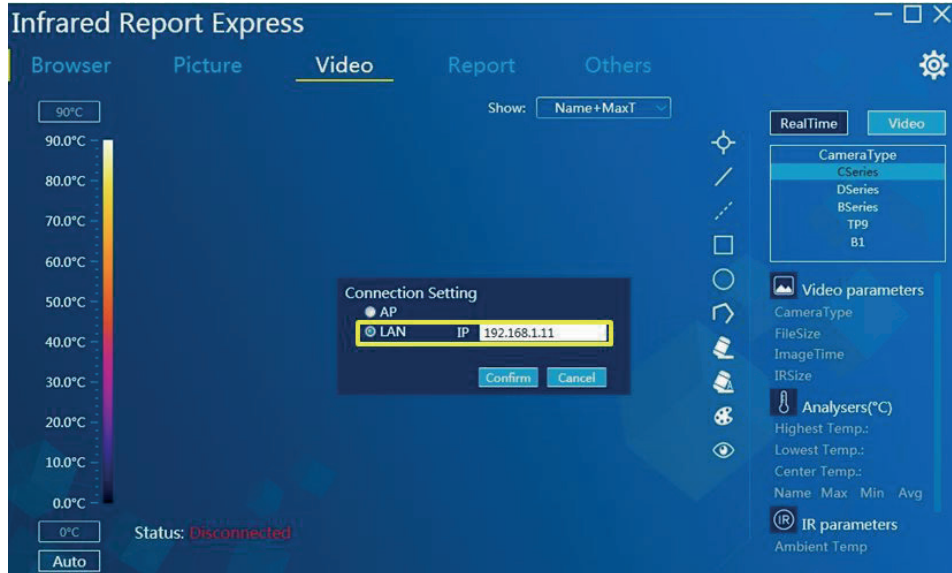

Figure 3-36
3. Utilize the network cable equipment to connect the PC reliably and click the device LAN shortcut **LAN#** to open the network connection function of the device. Open the infrared analysis software to select “CSeries” in the model selection area, select “LAN” in the “Connection Settings” pop-up dialog box and input the device IP. See Figure 3-36: